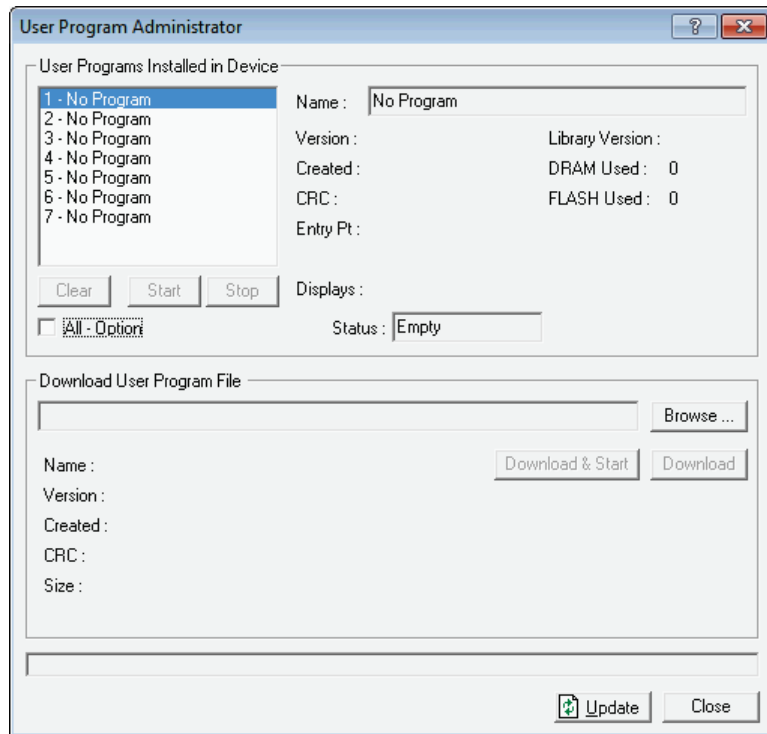

Figure 3. User Program Administrator
3. Select **Utilities > User Program Administrator** from the ROCLINK menu bar. The User Program Administrator screen displays (see *Figure 3*):